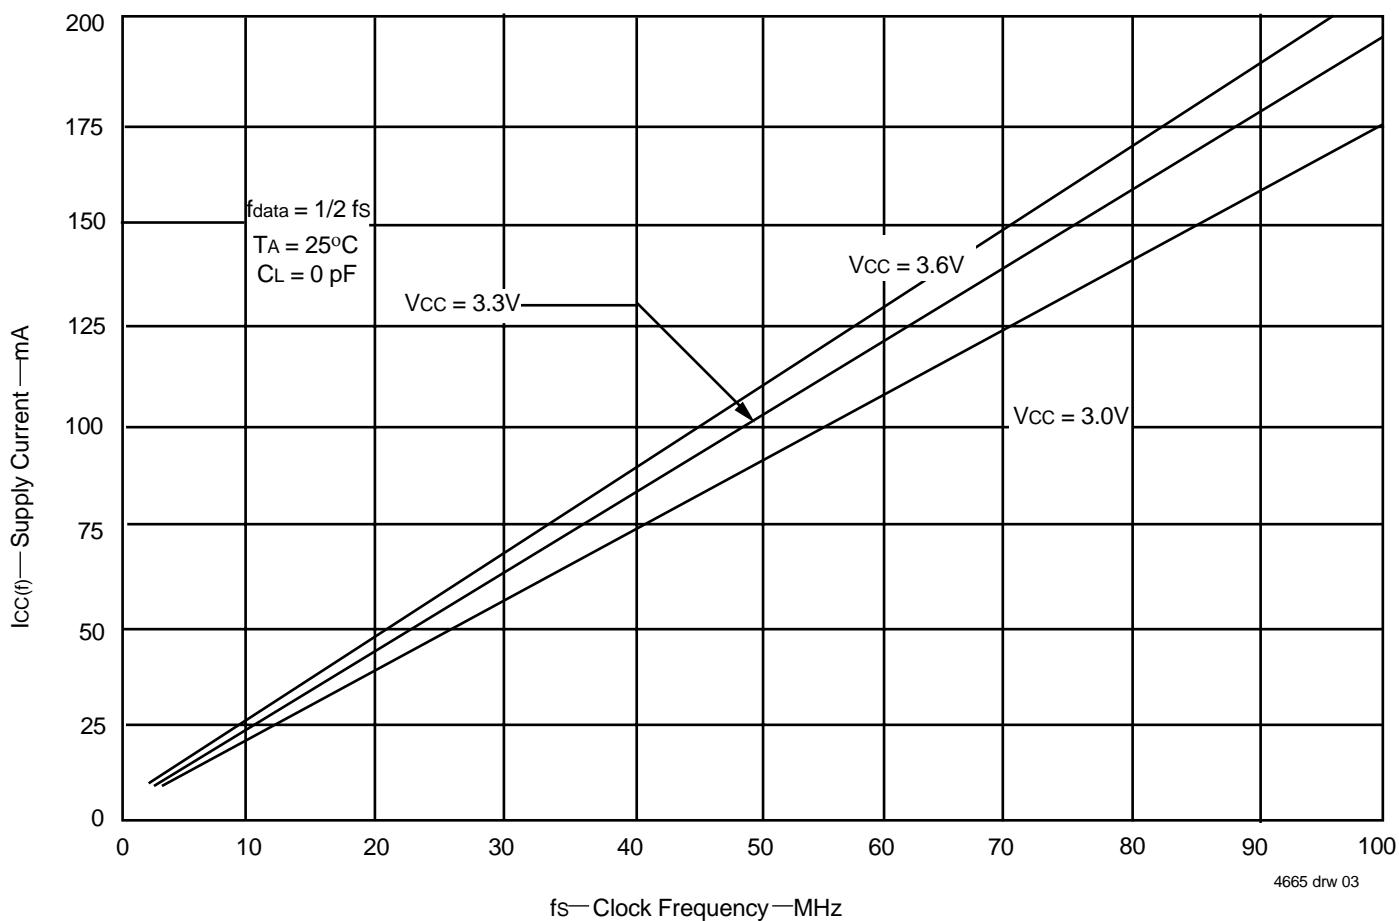

Figure 1. Typical Characteristics: Supply Current (I_{CC}) vs. Clock Frequency (f_s)
3. For additional I_{CC} information, see Figure 1, *Typical Characteristics: Supply Current (I_{CC}) vs. Clock Frequency (f_S)*.
The $I_{CC(f)}$ current for the graph in Figure 1 was taken while simultaneously reading and writing a FIFO on the IDT72V3626/72V3636/72V3646 with CLKA, CLKB and CLKC set to f_s . All data inputs and data outputs change state during each clock cycle to consume the highest supply current. Data outputs were disconnected to normalize the graph to a zero capacitance load. Once the capacitance load per data-output channel and the number of these device's inputs driven by TTL HIGH levels are known, the power dissipation can be calculated with the equation below.
With $I_{CC(f)}$ taken from Figure 1, the maximum power dissipation (P_T) of these FIFOs may be calculated by: